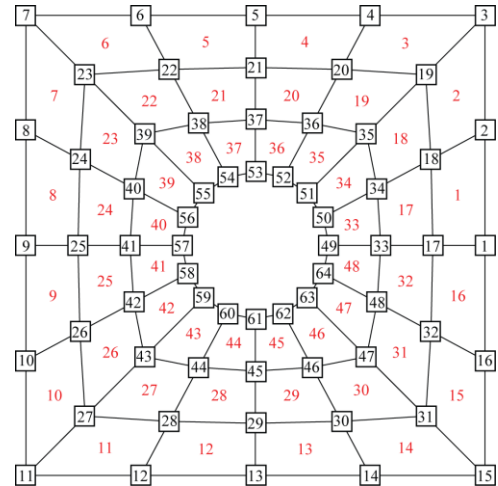

Figure 1 - Node and element numbering of mesh.
Write a function to compute the conductivity matrix for a plate with a hole in the center. To generate a mesh, use the function **hole_mesh** that can be downloaded from http://compmech.lab.asu.edu/data/hole_mesh.m. The node and element numbering for this mesh are shown in Figure 1.
- **Input arguments:** nh: half the number of elements along a side of the plate (in Figure 1, $nh = 2$).